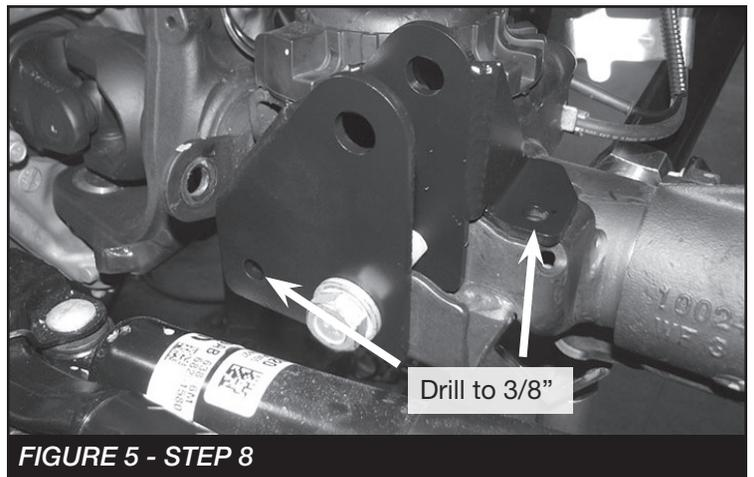

FIGURE 5 - STEP 8
8. Install FT50618 (Front track bar bracket) to the factory mount using stock bolt. **SEE FIGURE 5.** Mark the 2 holes to drill using the new bracket as a guide. Remove and drill the holes to 3/8"